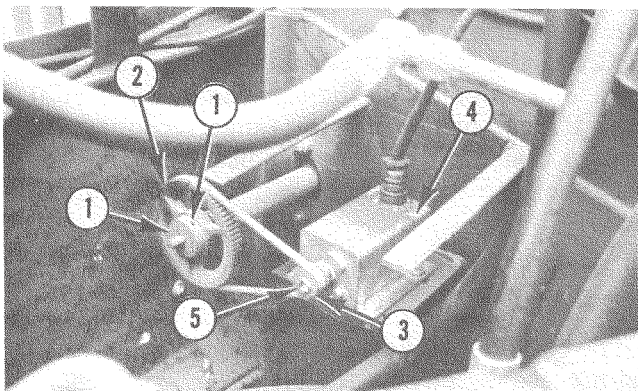

Figure 32. Gate Opening Transducer
12. Loosen the locking hub on the 72T pulley (Figure 32) until it is free.